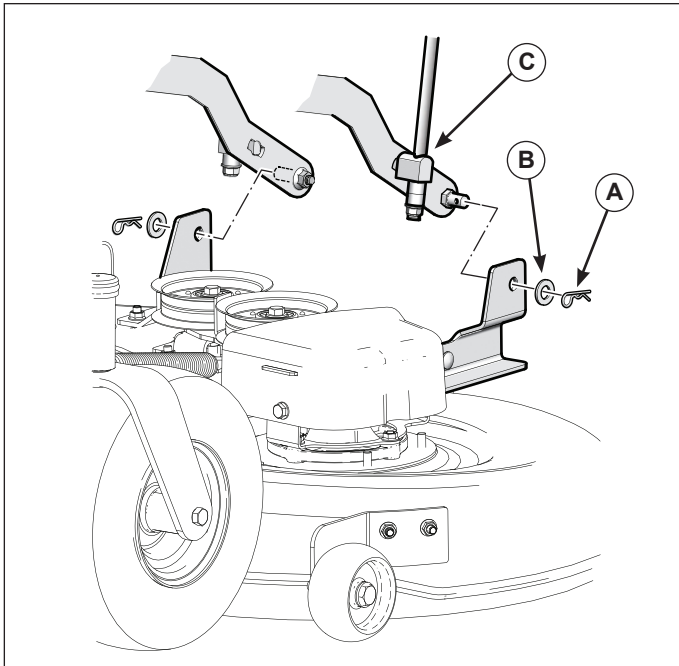

Figure 18. Front Lift Arms
10. Remove the hair pin clips (A, Figure 18) and washers (B) that secure the front hitch rods (C). Separate the front hitch rods from the mower deck.
2. Slide the mower deck forward and connect the front hitch rods to the mower deck. Secure with washers (B, Figure 18) and hair pin clips (A).